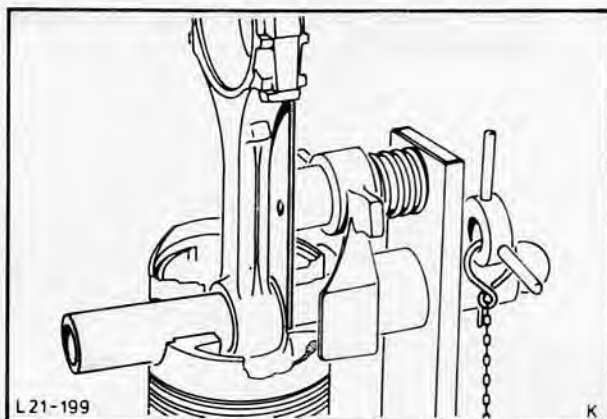

Fig. 228. Slide piston pin through bore up to stop
10. On reaching temperature quickly insert connecting rod into piston, then quickly slide piston pin through connecting rod up to stop, Fig. 228.